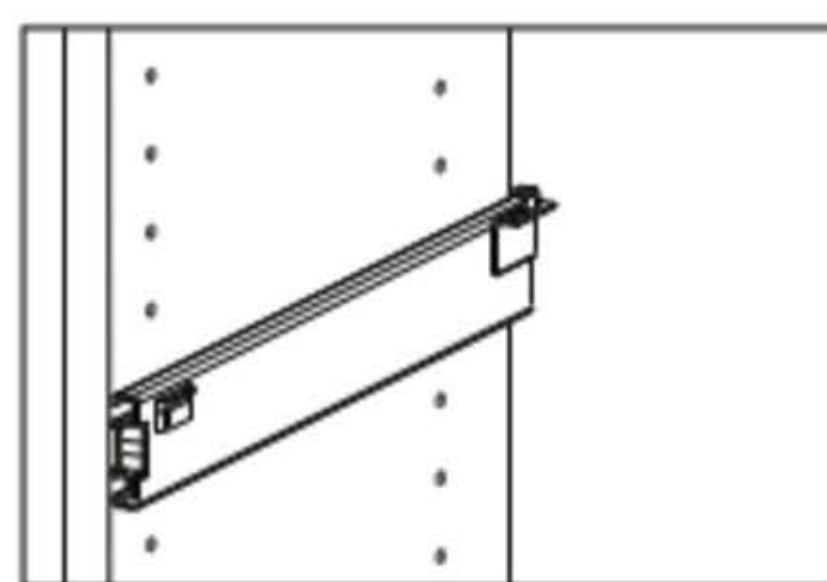

FIGURE 1
2. Align front of slide with front of closet panel (Fig. 1)